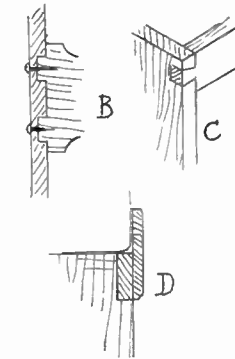

Fig. 2—Details of joints and construction
At the bottom of the sides cut two tenons, 2ins. long, and spaced 1in. from each side. These sides are now to be joined together by two top cross bars, and one lower down. The top ones are 1½ ins. wide and are cut from the 1in. thick board. They are jointed across with a single dovetail, as at (C) in Fig. 2. Dovetails are really easy enough to mark out and cut, but a plain tongued-and-slotted joint could be substituted, if preferred, as long as a pin is driven through the joint from the top to prevent any tendency to draw apart.